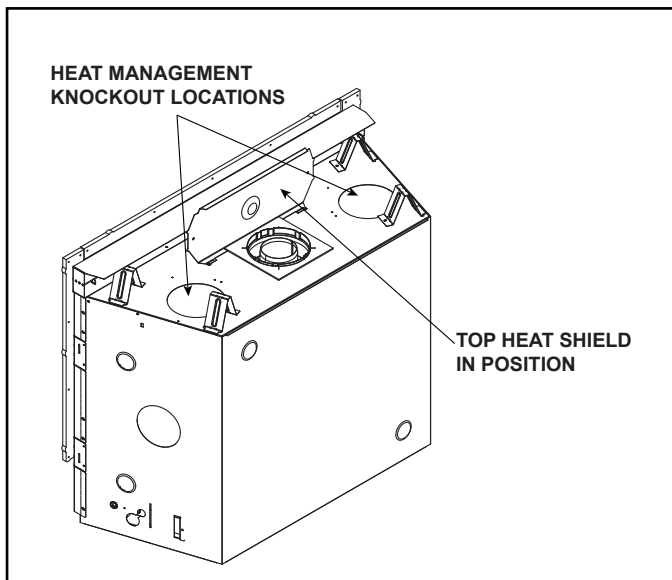

Figure 6.2 RAVE42-IFT-B B / RAVE36-IFT-B - Top Heat Shield in Position
2. Fold up top heat shield to 90 degrees as shown in Figure 6.2.
- Locate the two heat management ports on the top of the appliance. Either one or two Heat-Zone® -Gas Kits may be installed. See Figure 6.2. Remove the knockouts from the appliance with a tin snips.